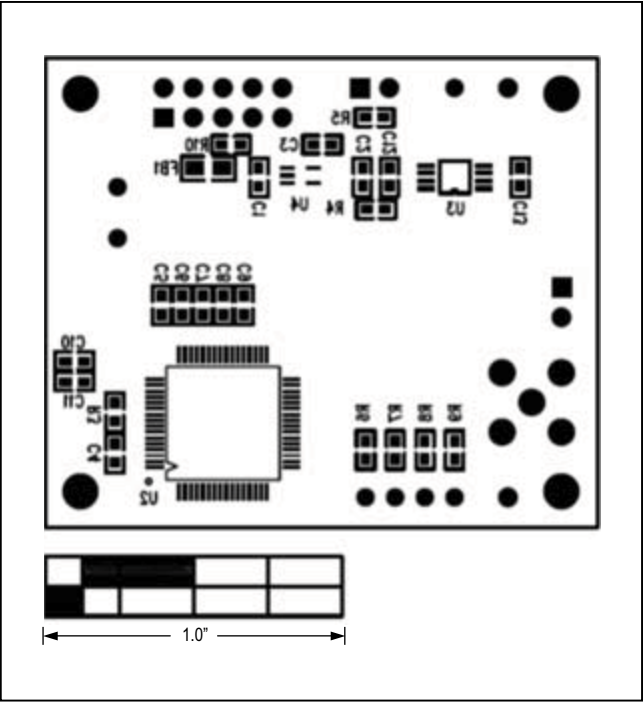

Figure 10. MAX5216DACLite EV Kit Component Placement Guide—Bottom
- 1) Totally disconnect the U1 and U3 devices from the rest of the board by removing resistors R4–R9 (see Figure 10 for component placement).